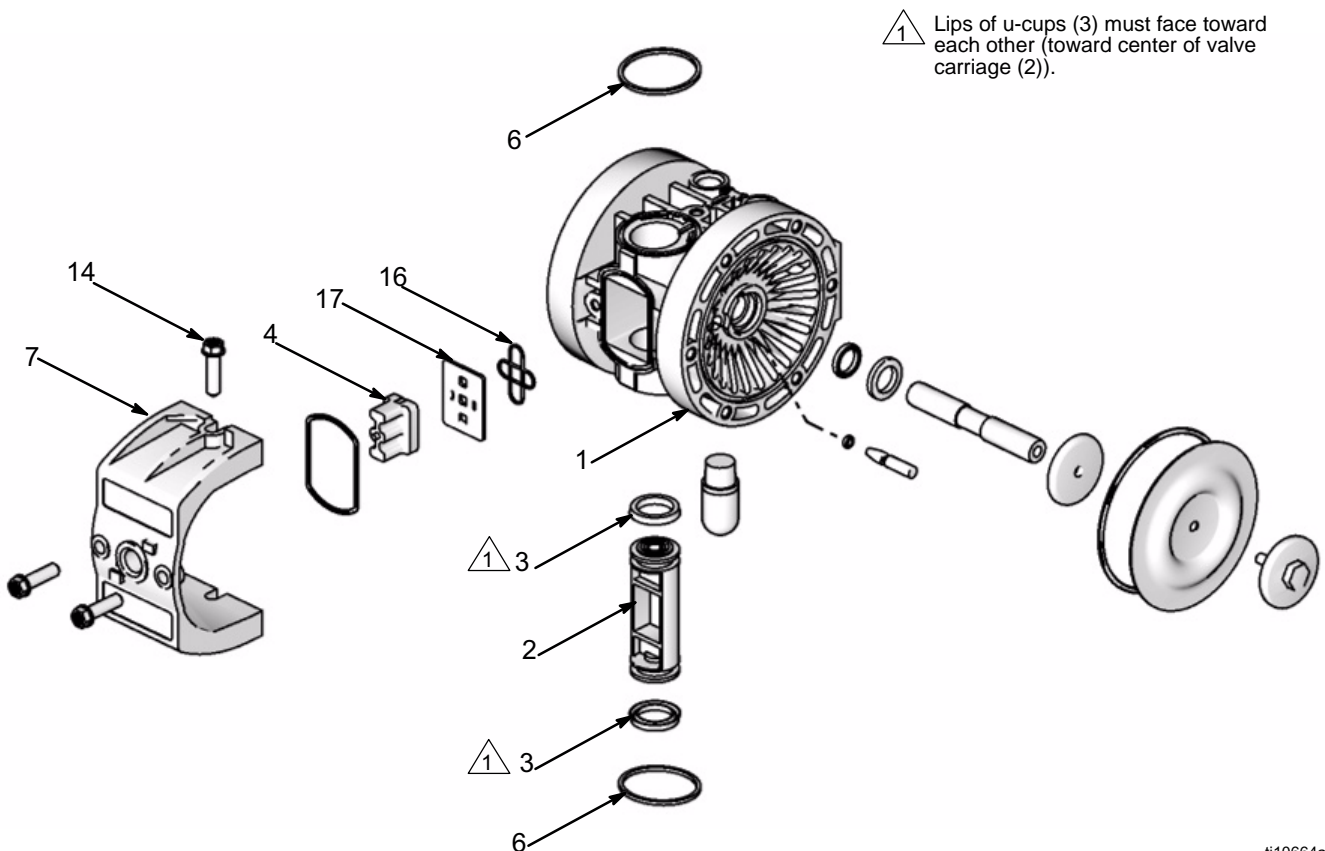

FIG. 5
Service the air valve as follows. See FIG. 5.
2. Remove the four screws (14) that hold the valve cover (7) on the center housing (1).
3. Remove the valve block (4) and valve carriage (2), and replace the u-cups (3). Replace the valve carriage and valve block. When you replace the valve carriage, position it all the way to one side or the other.
**NOTE:** The valve block shown in FIG. 5 is for pumps with an air-operated air motor. If your pump has a solenoid-operated air motor, this step does not pertain. Items 2, 3, 4, 16, and 17 are not required.
5. To reinstall the valve cover (7), spread cover apart enough not to damage the square ring packings (6) and slide cover (7) into the center section.
6. Install the screws (14), and torque to 45–47 in-lb (5.0–5.3 Nm). See **Torque Sequence** on page 21.